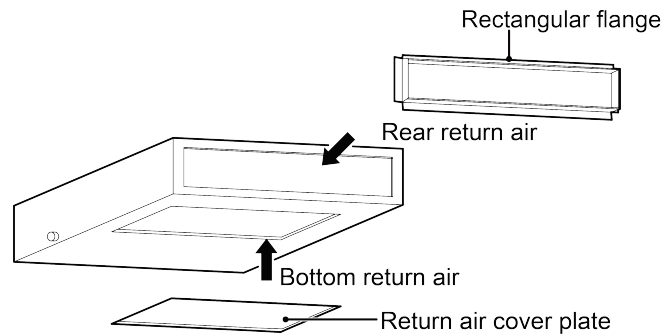

Fig 4.4.3.1
(1) Square flange is defaulted to be fitted on the back before ex-factory. Air-return cover is on the bottom, as shown in Fig 4.4.3.1.